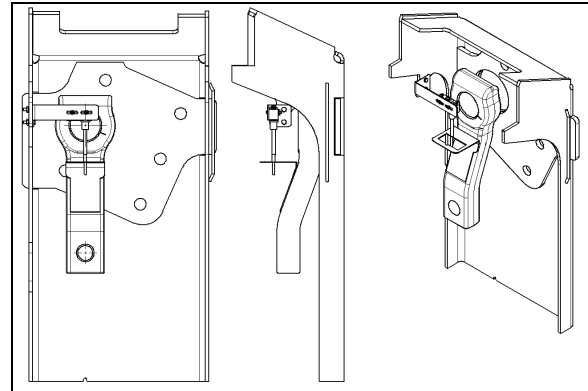

FIGURE 21: TAG AXLE UNLOADING SWITCH ADJUSTMENT
2. Line up switch lever with reference to the bracket center (Refer to Figure 21).